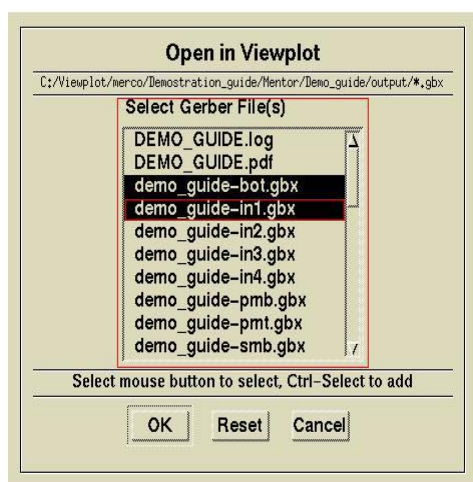

Figure 31: Select the Gerber files to load within Viewplot
2. Select the Gerber files you want to Investigate within Viewplot and Ok. (See Figure 31)